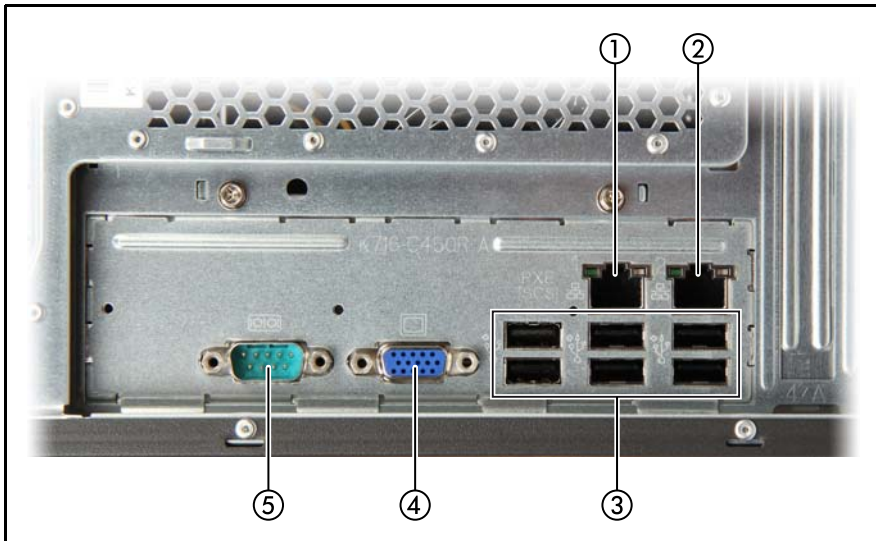

Figure 2: Connector panel on the rear side
- ▶ Connect the monitor to the video connector of the server (see figure 2 on page 44).